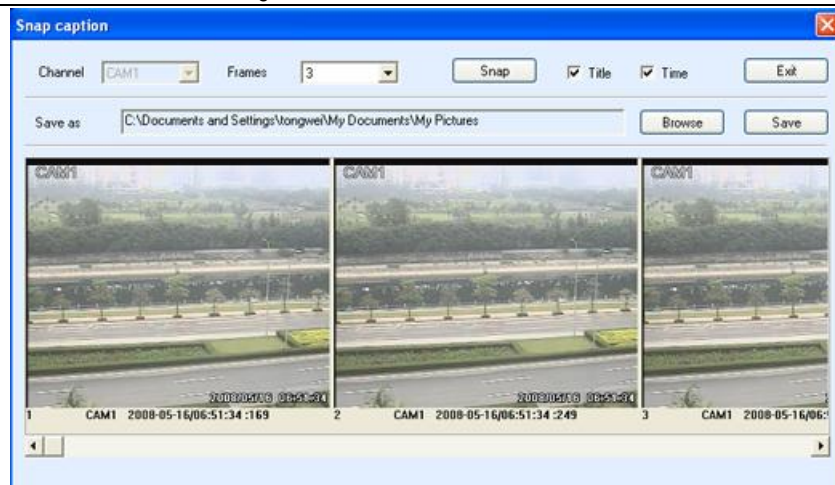

Fig 6.3 Preview Snap
STEP1 Click on a channel to choose. Click the button, a window will appear as Fig 6.3 Preview Snap.
STEP5 Users can make fast forward/backward, pause, stop playback and snap pictures. About snap feature, it is the same as that in remote preview, referring to Fig 6.3 Preview Snap.